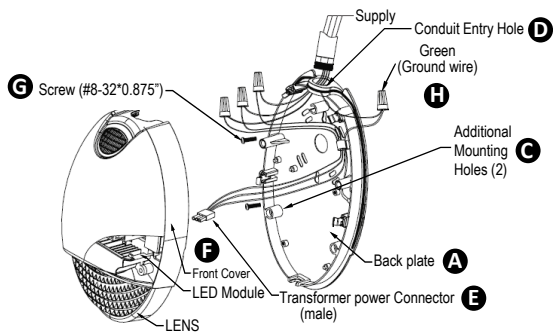

Figure 2
4. Feed conduit into **CONDUIT ENTRY HOLE (D)** opening (see Figure 2).
2. Connect green **GROUND (H)** lead to suitable ground, (see Figures 2 and 3).